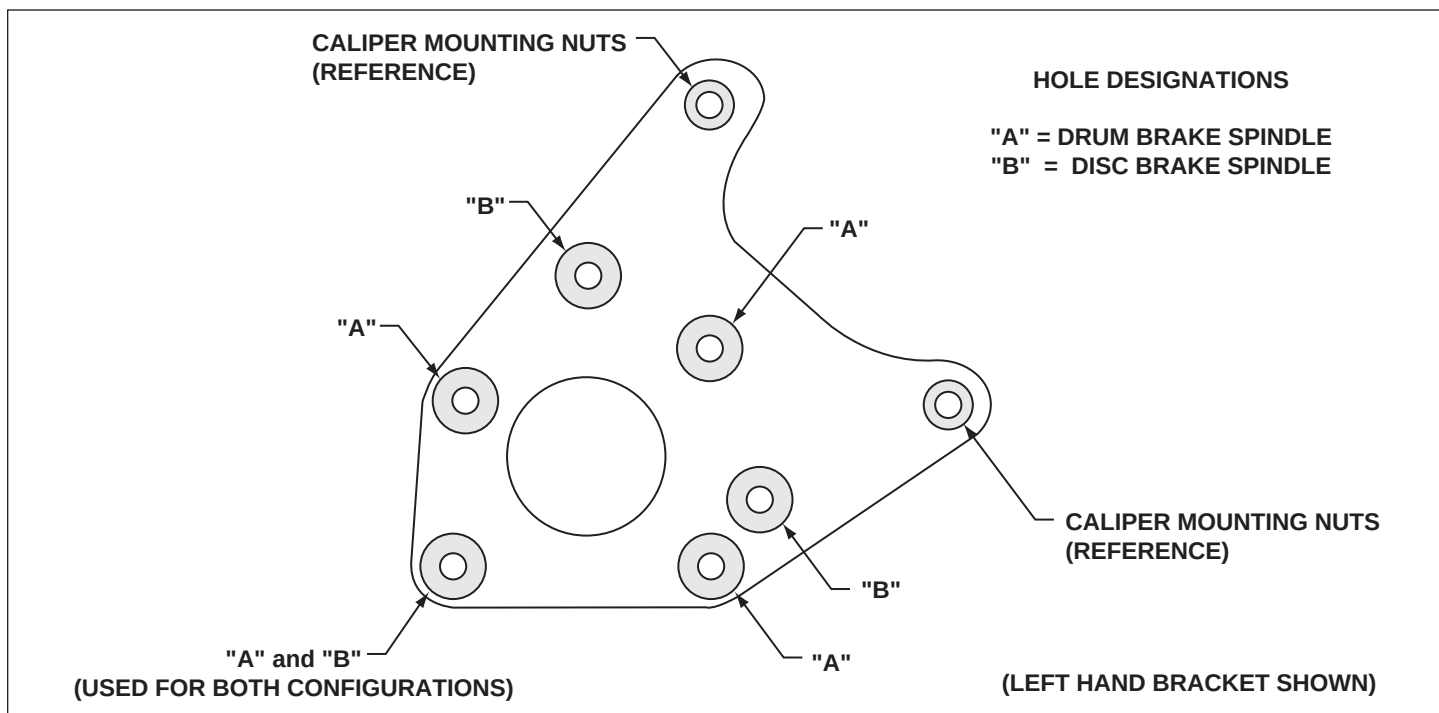
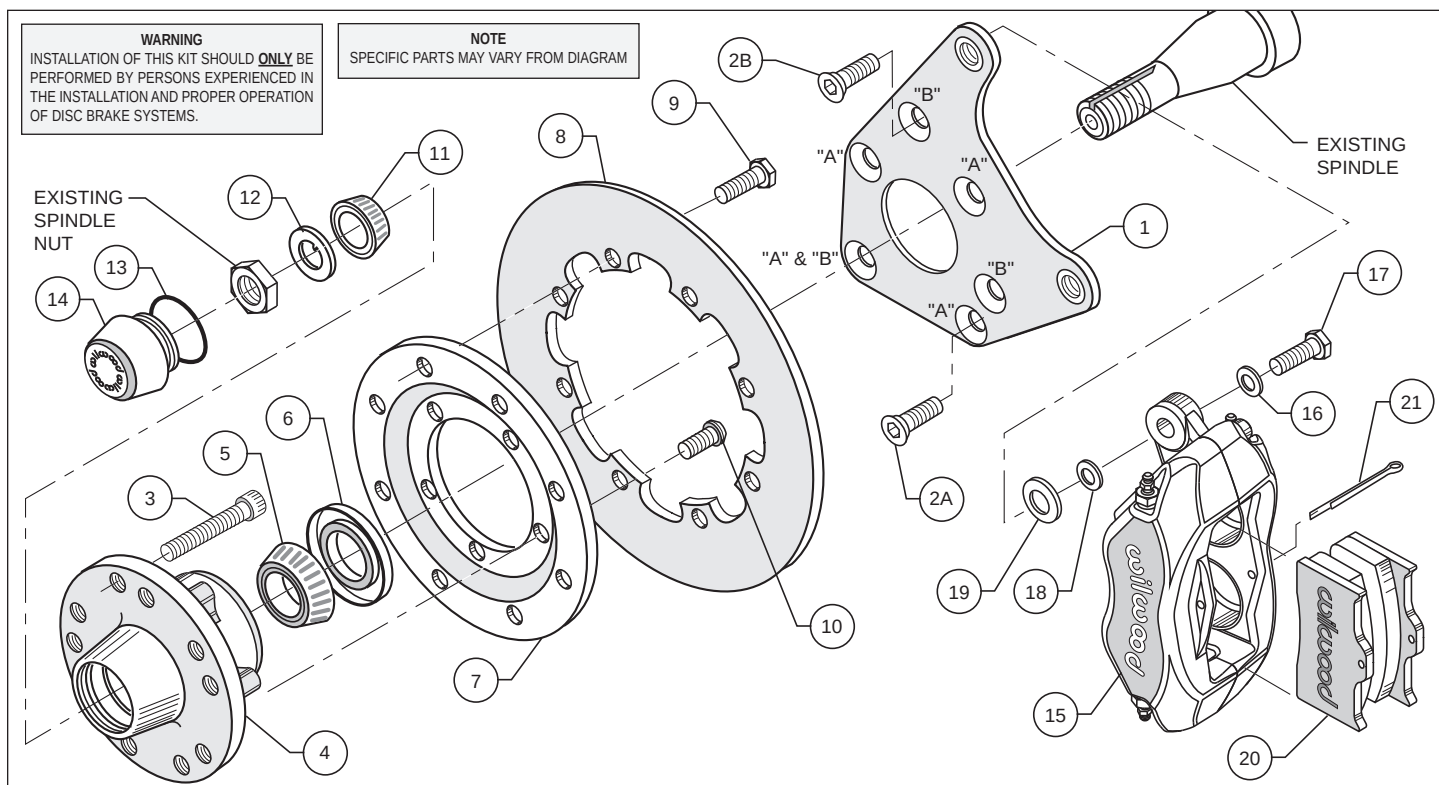
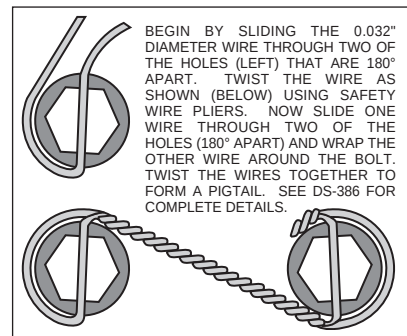

Figure 1. Wilwood Caliper Mounting Bracket
Figure 2. Typical Installation Configuration
Figure 4. Safety Wire Diagram
This kit has been designed for use with both the disc brake or the drum brake configuration of vehicle. The only difference is in how the Wilwood caliper mounting bracket is installed. The same bracket is used for both configurations; the disc brake version utilizes three mounting holes while the drum brake application uses four mounting holes (see Figure 1). For your convenience we have supplied bolt kits for both applications (see parts list and Figure 2 as necessary, item(s) 2A and 2B). Use the bolt kit that is applicable to your vehicle and disregard the other one.
These modifications should be performed by a qualified machinist and completed before assembly of the Wilwood disc brake kit begins. Using the caliper mounting bracket as a template (refer to figure 1 as necessary), locate and verify the three original stock holes on the steering arm that need to be modified. Drill a .332 diameter hole through all three holes, then tap 3/8-24 UNF (fine thread). Countersink the holes to .438 x 90°.
- As mentioned before, this kit uses the same mounting bracket (1) for both the drum and disc brake spindle. The drum version utilizes four mounting bolts (designated with a "A"), while the disc only requires three (designated with a "B"). Refer to figure 1 and figure 2 as required for the basic installation position of the bracket and the "A" and "B" reference designations (these designations are not physically marked on the bracket, they are referenced on the drawings for your convenience) and align using the three or four holes (as applicable) to the face plate of the steering arm. Install bolts (2A or 2B) through caliper mounting bracket (1) into steering arm, finger tighten only. After you are positive of the bracket (1) alignment, remove the mounting bolts (2A or 2B) one at a time and Apply red *Loctite*® 271 to bolt threads (2A or 2B), then reinstall. Torque bolts (2A or 2B) to 30 ft-lb. **NOTE:** Be sure the heads of the bracket (1) insert nuts are facing outward toward the wheel.
- Install wheel studs (3) into the hub (4). Torque to 77 ft-lb. **NOTE:** There are two (2) five lug patterns in the hub (5 x 4.50 and 5 x 4.75). Make sure of the correct hole pattern for the correct wheel application before installing studs into hub.
- Pack the large inner bearing cone (5) with high temperature disc brake bearing grease (available from your local auto parts store) and install into the backside of the hub (4).
- Install the grease seal (6) by pressing into the backside of the hub (4).
- Attach rotor adapter plate (7) to rotor (8) using bolts (9). Using an alternating sequence, apply red *Loctite*® 271 to the threads and torque bolts (9) to 25 ft-lb. For an added measure of security, the bolts may be safety wired using standard 0.032 inch diameter stainless steel safety wire as shown in Figure 4. Please refer to Wilwood's data sheet DS-386 (available at www.wilwood.com/Pdf/DataSheets/ds386.pdf) for complete safety wire installation instructions. **NOTE:** Dished side of adapter plate (7) should face hub (4). The machined tab side of the iron rotor (8) should face the adapter plate (7).
- Mount the adapter/rotor assembly (7/8) to the hub (4) using bolts (10) (finger tight), as shown in Figure 1. Using an alternating sequence, remove bolts one at a time, apply red *Loctite*® 271 to the threads, and torque to 55 ft-lb.
- Pack the small outer bearing cone (11) with high temperature disc brake bearing grease and install into front of hub (4). Slide the hub/rotor assembly (4 and 8) with outer bearing cone (11) onto the spindle. Secure using spindle washer (12), stock adjusting nut and nut locking device. Adjust bearings per Original Equipment Manufacturer (OEM) specifications.
- Install the o-ring (13) and then the dust cap (14) onto the hub (4). Friction created by the o-ring (13) on the dust cap (14) keeps it from unscrewing.